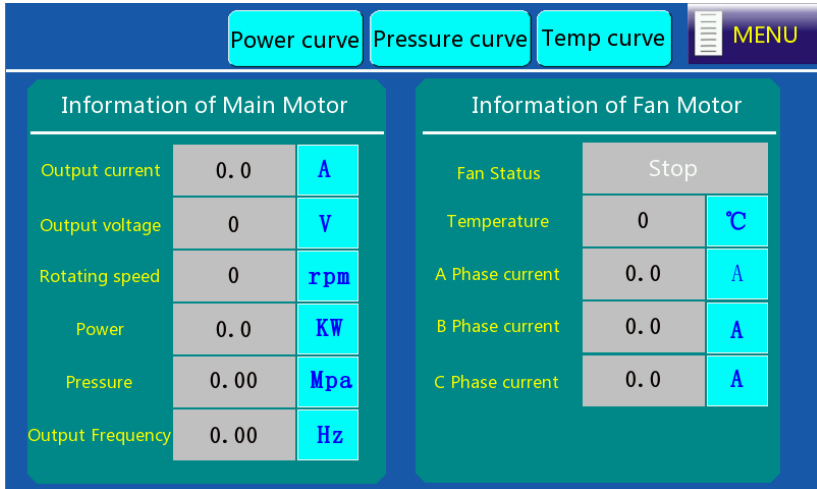

Figure 4-13 Running information interface
9. Choose **Running Info** in the menu, and the interface is displayed, as shown in Figure 4-13.